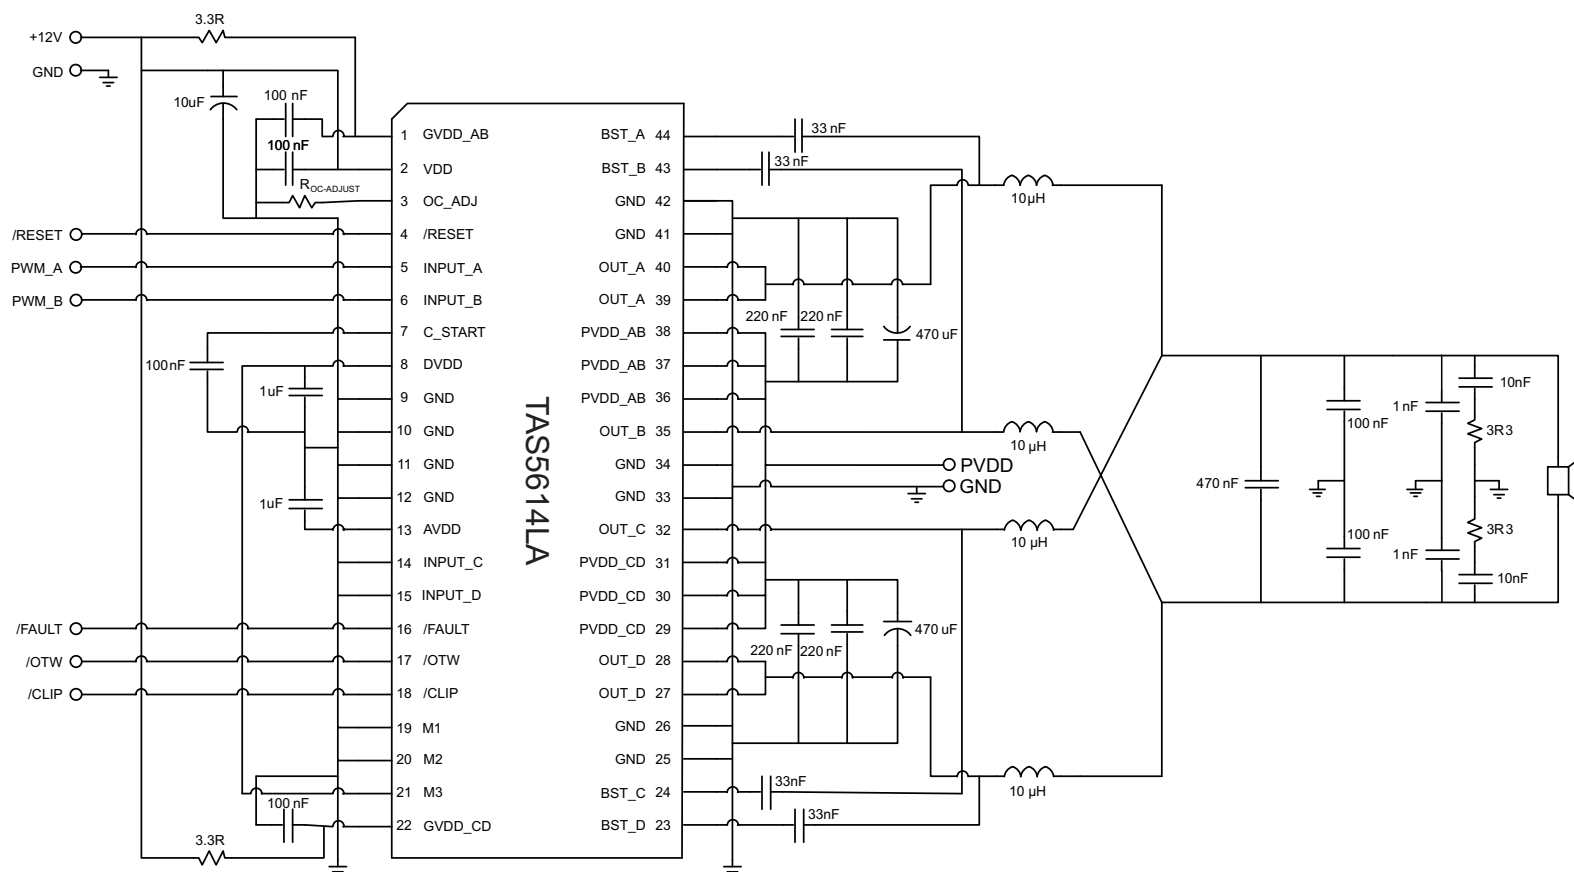

Figure 22. Typical Differential (2N) PBT Application With AD Modulation Filter
See Figure 22 for application schematic. In this application, one differential PWM input is used with AD modulation from the PWM modulator such as the TAS5558. AD modulation scheme is defined as PWM(+) is opposite polarity from PWM(-). The output PBTL configuration is often used to drive lower impedance load such as a subwoofer.
- Pins 27, 28, 32, 35, 39, 40 - Output pins from half-bridges A, B, C, and D. Connect appropriate bootstrap capacitors and differential LC filter as shown in Figure 22.
- Pins 29, 30, 31, 36, 37, 38 - Power supply pins to half-bridges A, B, C, and D. A and B form a full-bridge and C and D form another full-bridge. A 470-uF bulk cap is recommended for each full-bridge power pins. Two 0.22-μF decoupling capacitors are placed on each full-bridge power pins. See Figure 22 for details.